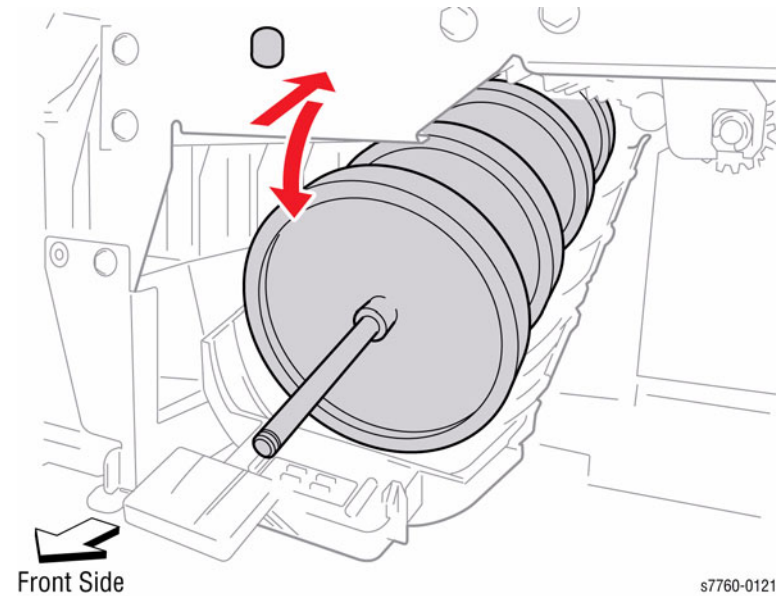

Figure 5 Removing Buffer Roll
- c. Move the Buffer Roller Shaft to the rear and downward and remove the Shaft. Remove the Buffer Roller (Figure 5).